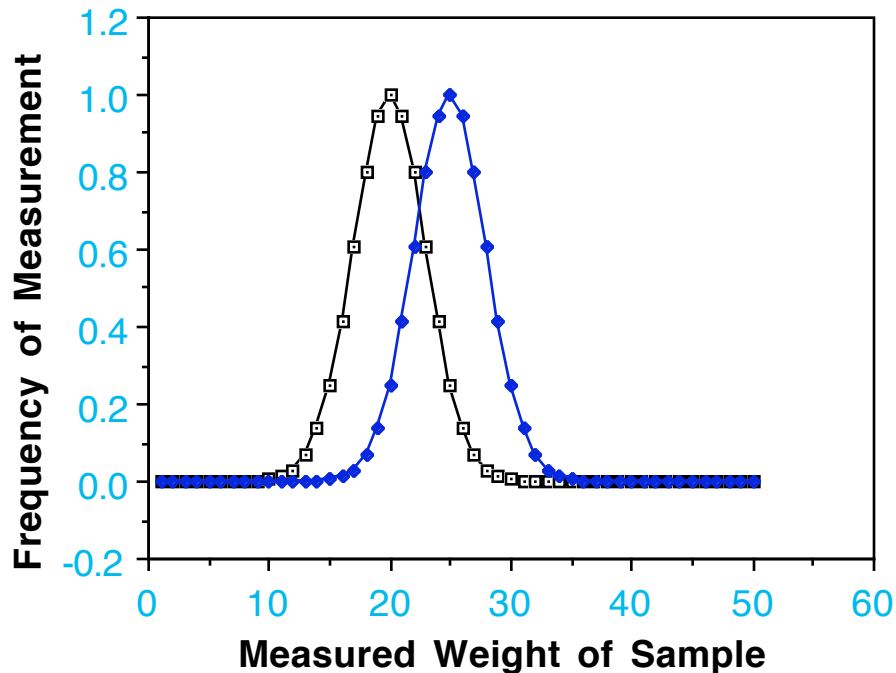

Fig. 2. Comparison of Two Gaussian Distributions
1. Number the graph (Figure 1, Figure 2, etc) and give it a title. Refer to the figure number when discussing the graph in the text of a report.